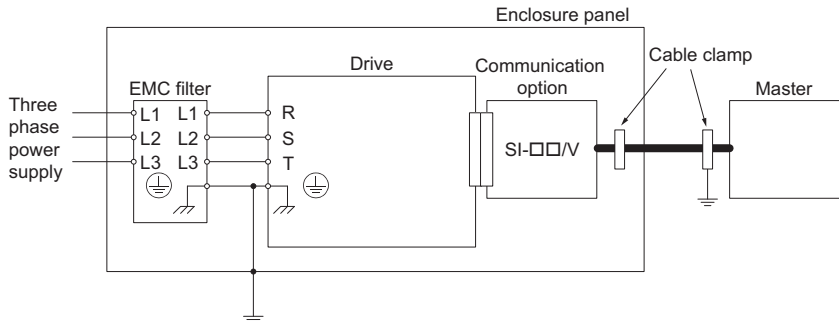

Figure 23 CC-Link Option Installation for CE Compliance
2. Keep wiring as short as possible and ground the largest possible surface area of the shield to the metal panel according to Figure 23.